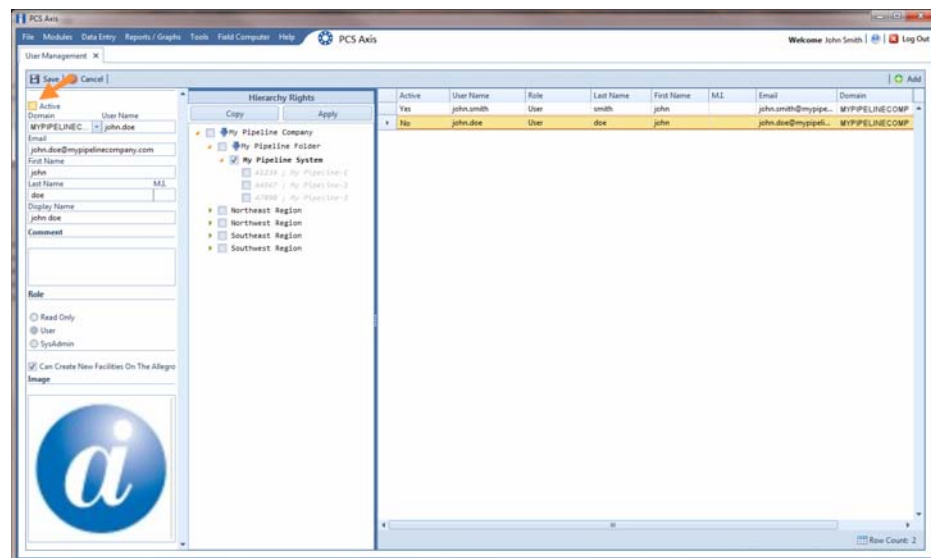

Figure 5-2. User Account Status
- 1 Click **Tools** > **User Management** (Figure 5-2).
The **Active** property setting changes from *Yes* to *No* indicating the user account is now inactive (Figure 5-2).